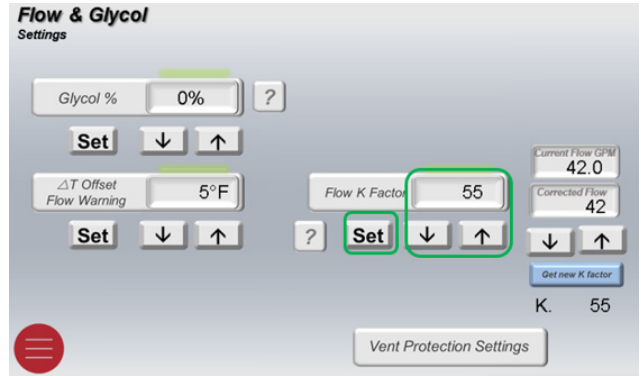

Figure 68. Set New "K Factor" Settings
8. Set the new K Factor using the Up/Down arrows and tap "Set". See **Figure 68**.